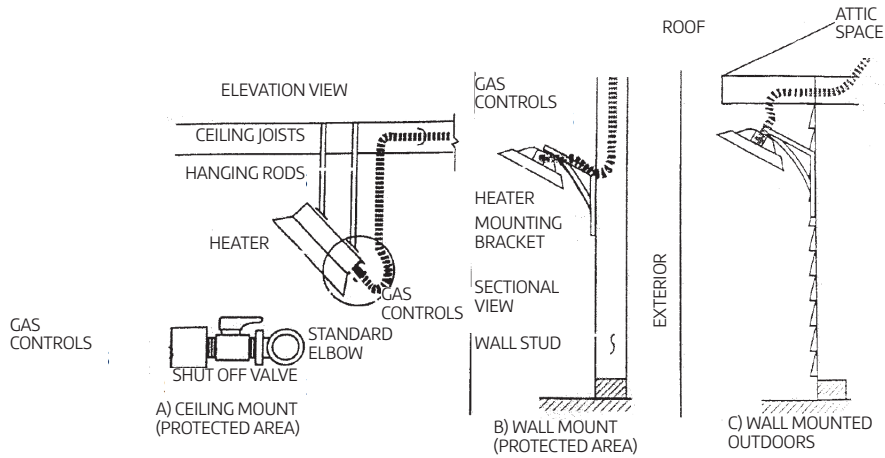

Figure 4.25
**B. Infrared Heaters** – Infrared heaters mounted from ceilings and walls of structures shall be connected to WARDFlex® system as shown in Figure 4.25 and installed in accordance with manufacturer’s instructions.